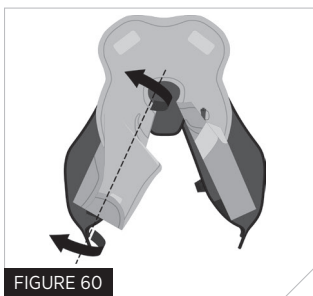

FIGURE 60
7. Fold inside edge in towards the centre of the bladder along fold line 7. The mechanism will now sit on top of the bladder (Fig 60).